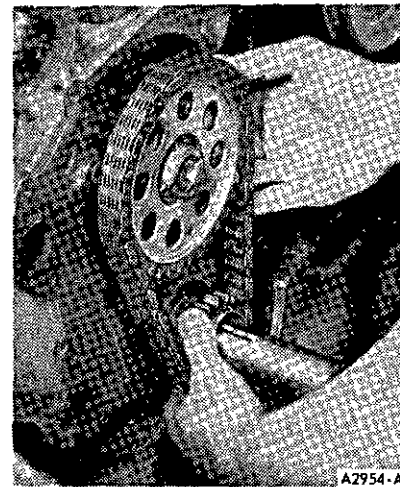

FIG. 46 Removing or Installing Timing Chain
14. Remove camshaft sprocket cap screw, washer, two-piece fuel pump eccentric and front oil slinger. Slide timing chain and sprockets forward, and remove as an assembly (Figure 46).